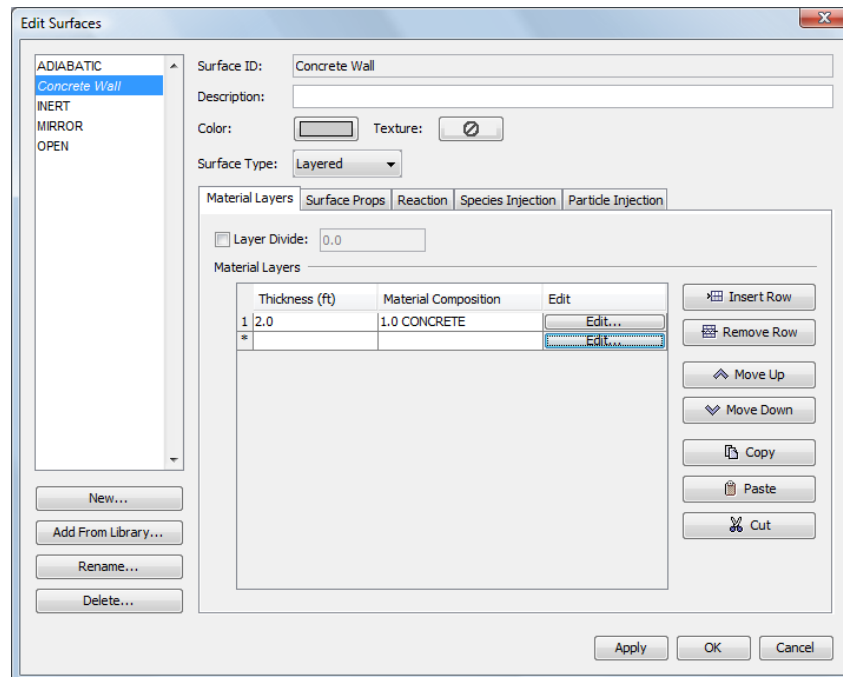

Figure 7.8. The concrete surface
7. In the **Edit Surfaces** dialog, click **Apply** to save the changes, Figure 7.8. We have just stated that this surface is 2 feet thick and composed entirely of concrete.